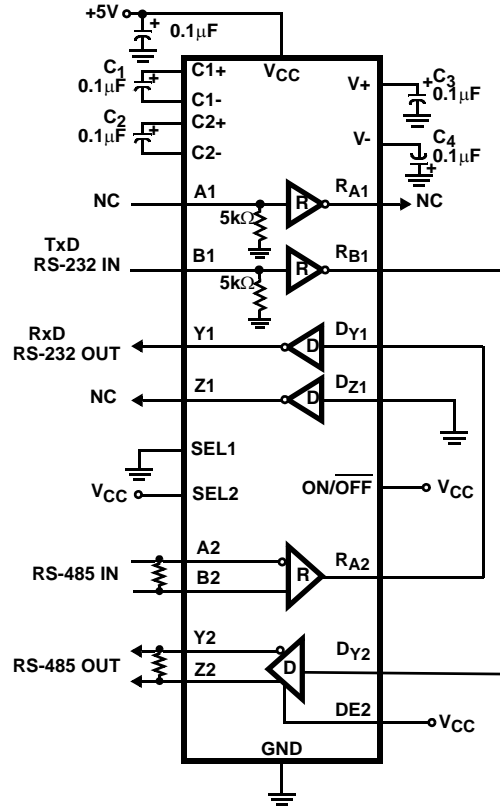

FIGURE 1. SINGLE IC RS-232 TO RS-485 CONVERTER
This two port dual protocol IC is ideal for implementing a two wire (RxD and TxD) RS-232 to RS-485 converter, as shown in Figure 1. To evaluate this circuit using the eval board (starting with the default configuration): install the "B1" (4) jumper to connect the 50Ω termination on the input; remove the "DY1 (DZ/SLEW)" (23) and "DY2" (20) jumpers; connect a wire from the "RB1 (RA)" test point to the DY2 test point ("TP19"); connect a wire from the "RA2 (NC)" test point to the DY1 test point ("TP20"); connect the port 2 "external loopback" jumpers (9 and 10), and move the "SPA" (16) and "SPB" (17) jumpers to the "LOW" positions to set the RS-485 Tx speed to the medium data rate option. Note that the RS-232 Tx output (Y1) is unloaded in this configuration, while the RS-485 Tx output drives a double terminated load (R13 and R14). The RS-232 output can be resistively loaded by looping it back to the "A1" input via the "A1/Y1_LB" (5) jumper, and can be capacitively loaded by soldering the desired load value in position C4. To add a differential capacitive load to the RS-485 driver, simply solder the capacitor on top of termination resistor R13, or solder a capacitor across the C3 and C5 pads that connect to Y2 and Z2, respectively.